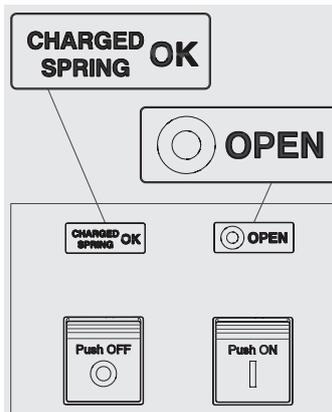

Figure 46
2. Circuit-breaker open with springs charged (see Figure 46).